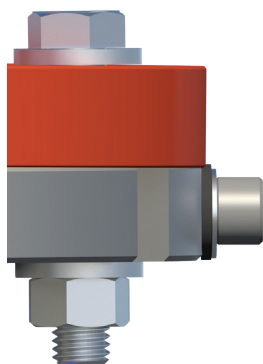

FIGURE 57
3.2.10) Lock the valve cartridge assembly in place by cross-tightening the Allen-head completion pins (**4 pins for 4"-8" installations, 6 pins for 10"-12" installations**). Tighten each until the head of the completion pin bottoms out against the flange, as seen in Figure 57. Do not over-tighten.